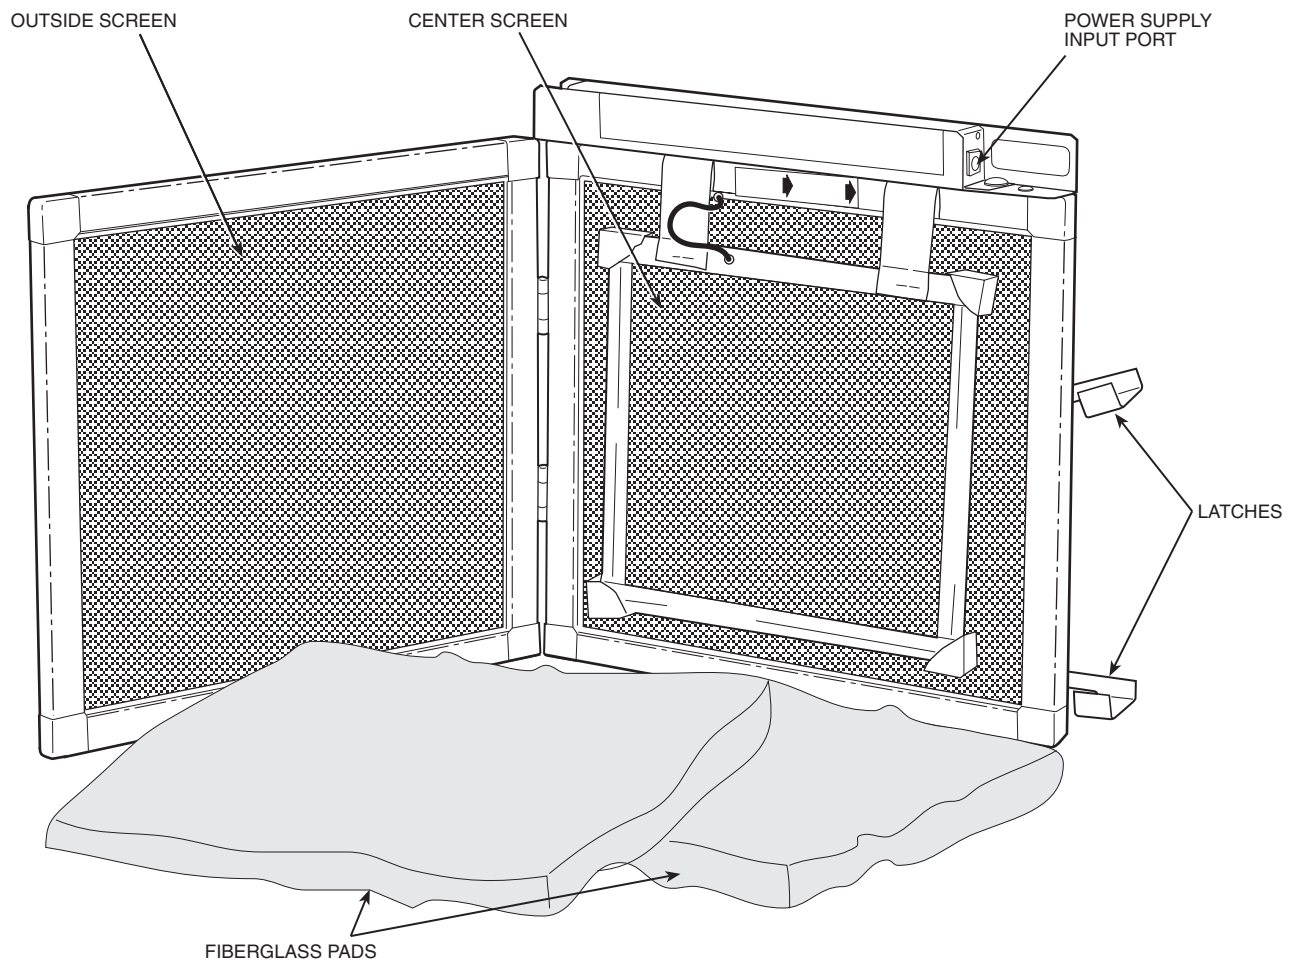

Fig. 1 — Electronic Air Cleaner Details
1. Open the electronic air cleaner by lifting the latches on the side of the frame and opening. See Fig. 1. Inspect for damage and make sure all the parts are present.